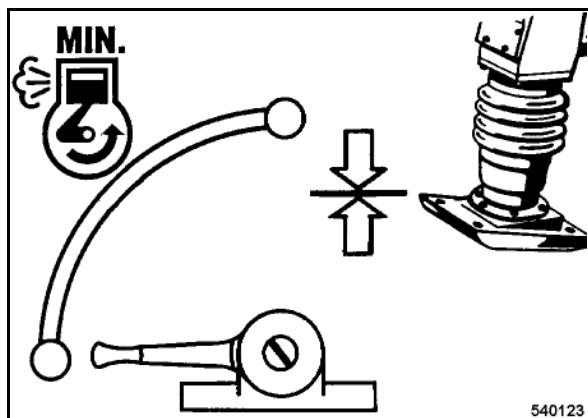

Fig. 22 □
- During short breaks you should always set the throttle lever to "MIN"-position (Fig. 22).